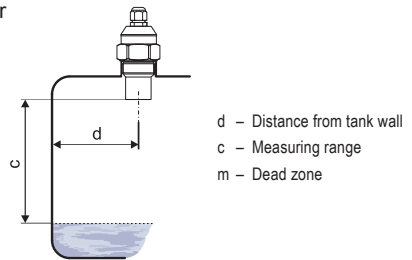

Fig. 3: Installation distance from the tank wall
- b) **Minimum** dimension parameters when installing into a lid or a ceiling of a tank are listed in Fig. 3.